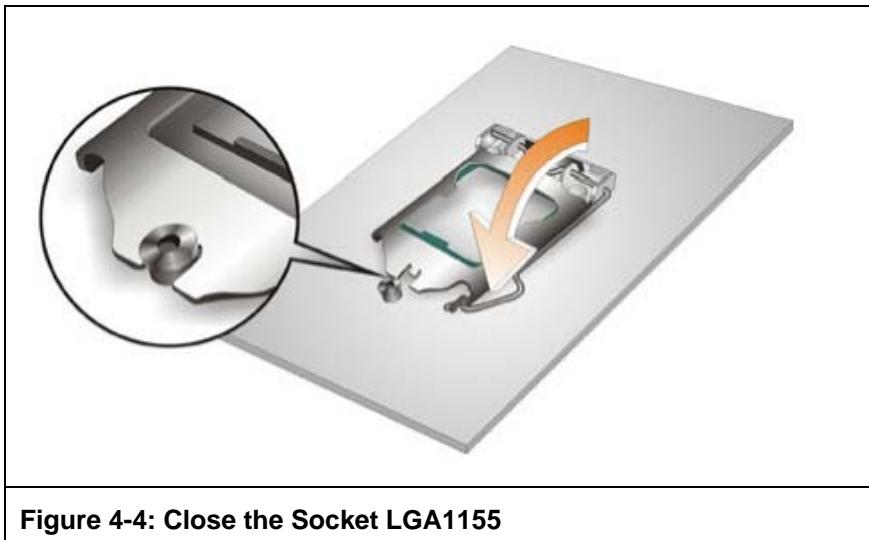

Figure 4-4: Close the Socket LGA1155
**Step 8:** Close the CPU socket. Close the load plate and pull the load back a little to have the load plate be able to secure to the knob. Engage the load lever by pushing it back to its original position. See **Figure 4-4**. There will be some resistance, but will not require extreme pressure.